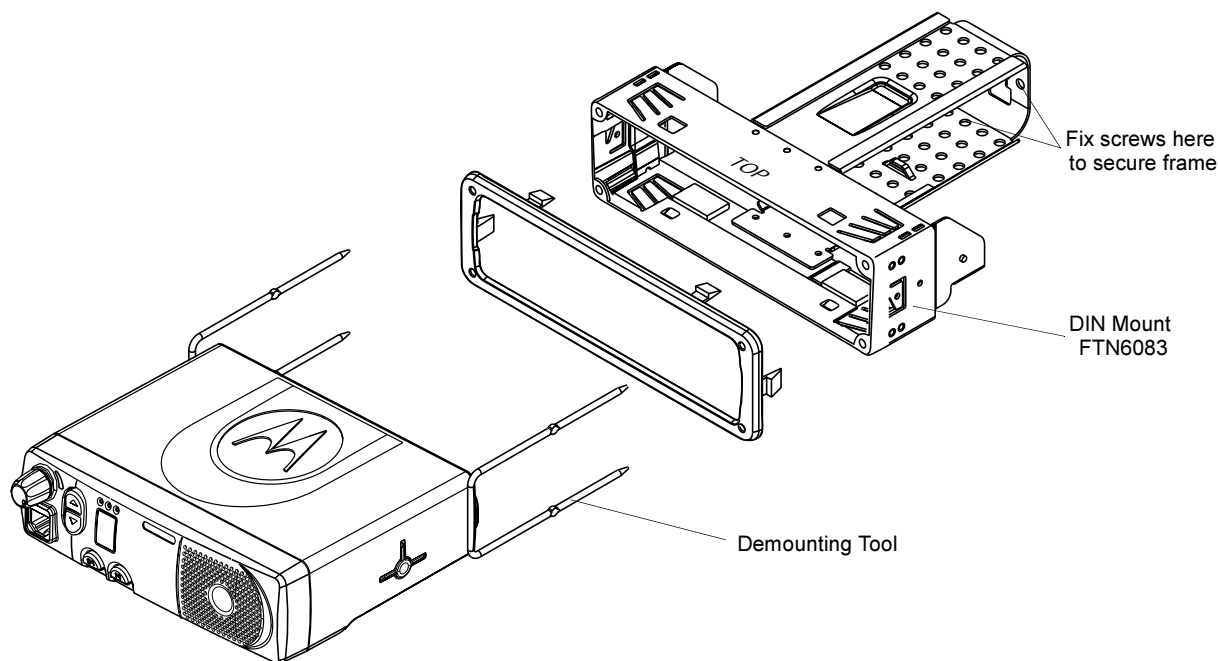

Figure 1-7 Mounting the Radio into the Dashboard
1. Push the two demounting tools (see Figure 1-7) through the openings in the frame until the two springs release the radio.